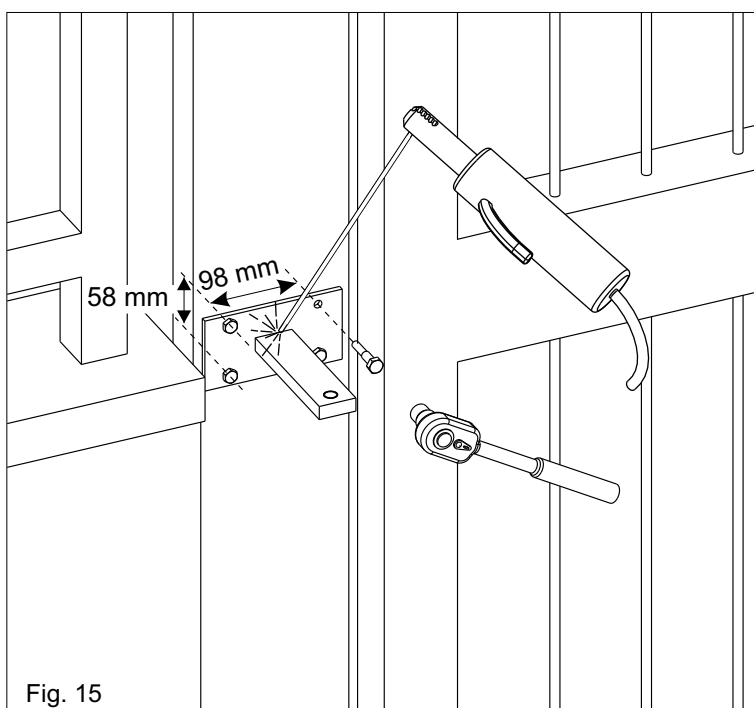
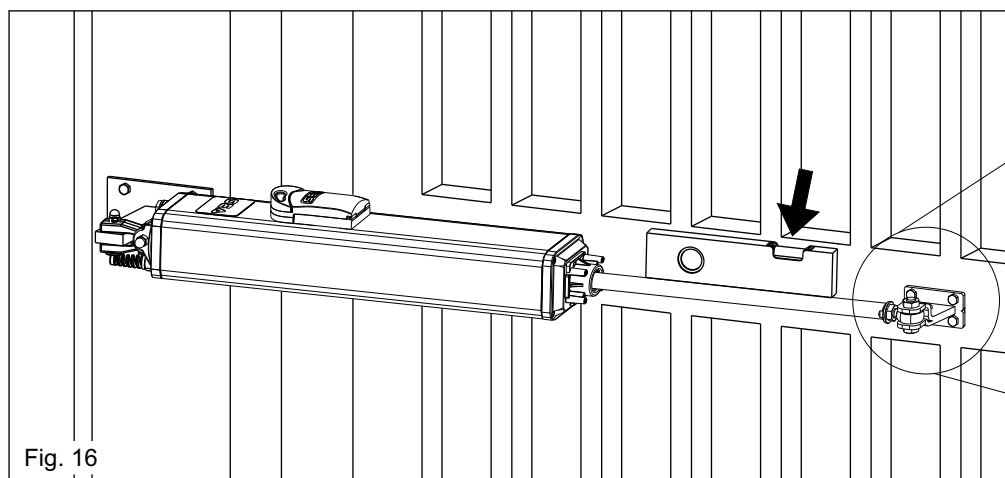

Fig. 15
Fig. 16
According to the type of opening that you have chosen (inside or outside) and to the chosen leaf rotation (see pag. 19-20), the rear bracket must first be cut respecting the quote "a" on pag. 19-20 and then welded as in fig. 15.
The support must be positioned so that the operator is perfectly levelled (Fig. 15, Fig. 16)
4. Set the operator perfectly levelled and mark the position of the front bracket (Fig. 16).